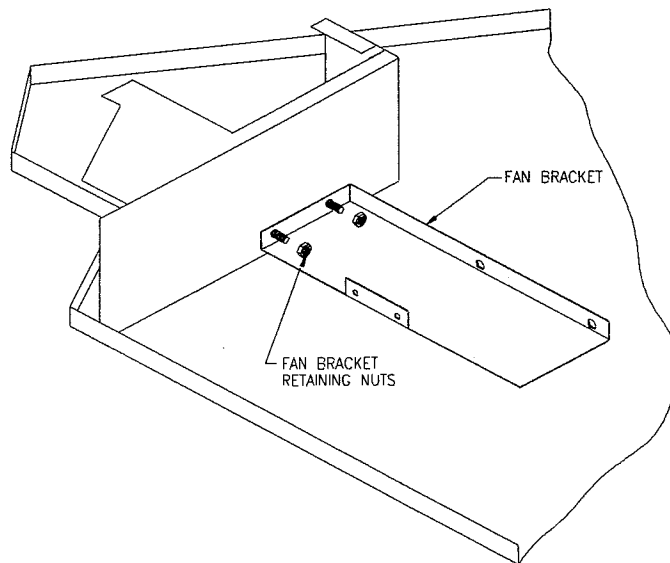

Figure 28
5. Remove the two fan bracket securing nuts (see Figure 28).